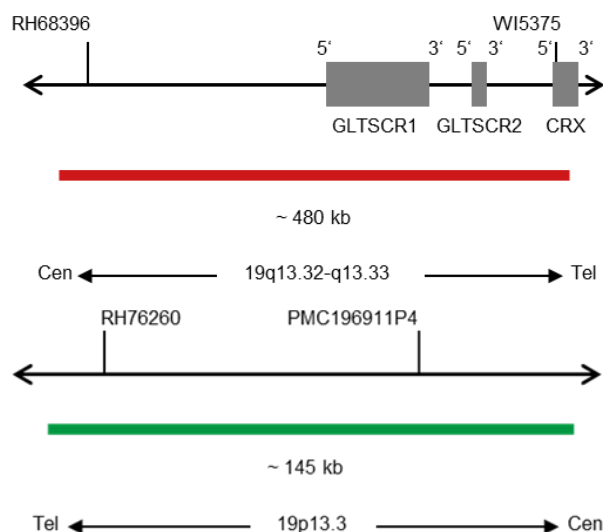

Fig. 1: Top: SPEC 19q13 Probe map; Bottom: SPEC 19p13 Probe map (not to scale)
- Dinitrophenyl-labeled polynucleotides (~0.8 ng/ $\mu$ l), which target sequences mapping in 19q13.32-q13.33\* (chr19:47,857,776-48,339,398) (see Fig. 1).
- Digoxigenin-labeled polynucleotides (~0.8 ng/ $\mu$ l), which target sequences mapping in 19p13.3\* (chr19:815,938-962,244) (see Fig. 1).